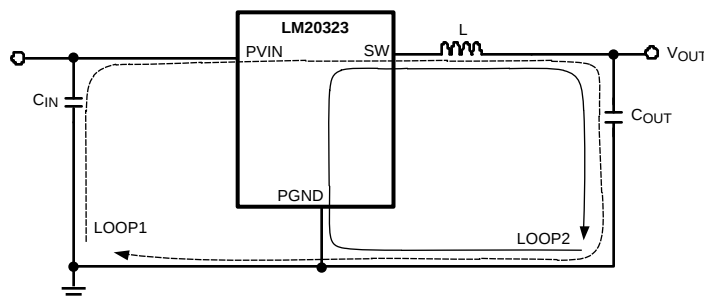

Figure 12. Schematic of LM20323 Highlighting Layout Sensitive Nodes
1. Minimize area of switched current loops. In a buck regulator there are two loops where currents are switched at high slew rates. The first loop starts from the input capacitor, to the regulator VIN pin, to the regulator SW pin, to the inductor then out to the output capacitor and load. The second loop starts from the output capacitor ground, to the regulator GND pins, to the inductor and then out to the load (see Figure 12). To minimize both loop areas the input capacitor should be placed as close as possible to the VIN pin. Grounding for both the input and output capacitor should consist of a small localized top side plane that connects to GND and the exposed pad (EP). The inductor should be placed as close as possible to the SW pin and output capacitor.